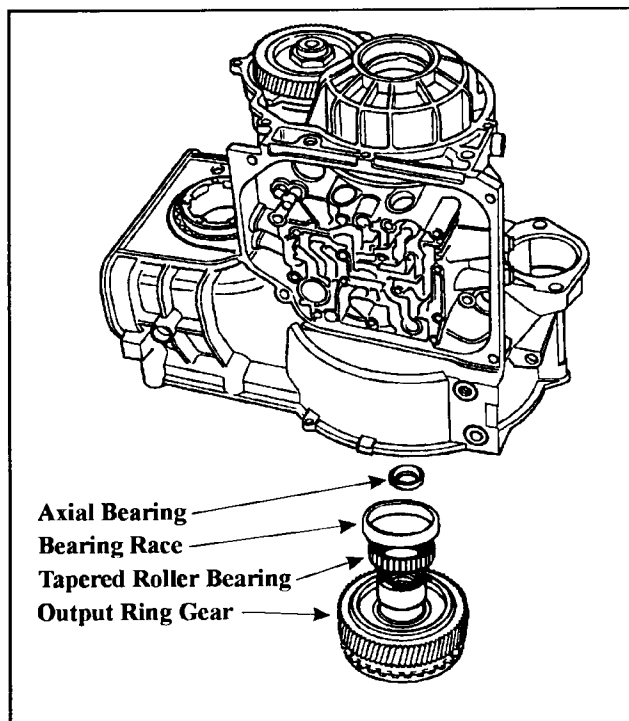

Figure 91
5. When the locking bolt is touching the tapered roller bearing race, unscrew the bolt and carefully remove the output ring gear with the inner tapered roller bearing from the transmission (See Figure 91 and 92).